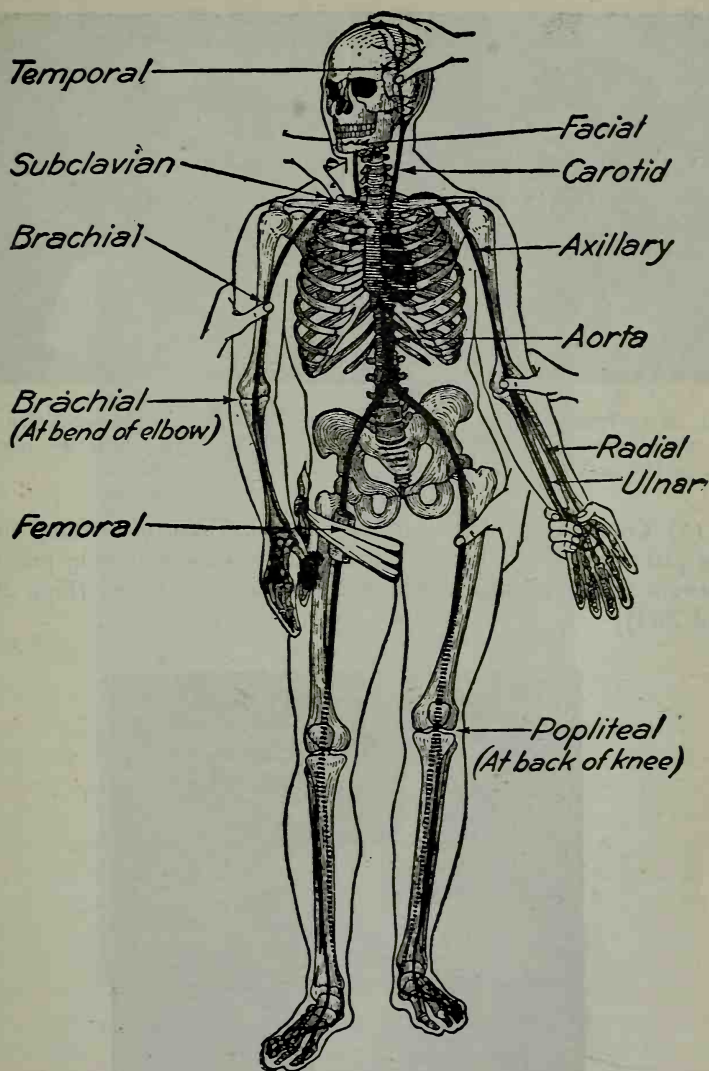
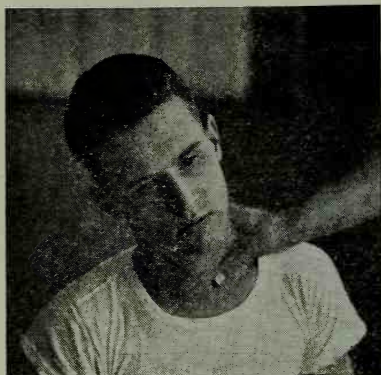

FIG. 28-1—Skeleton with black and dotted lines showing the course of the arteries and the pressure points.
FIG. 28-2—Pressure on carotid artery to control bleeding from head and upper part of neck.
**Treatment.**—Check the hemorrhage. Some knowledge of the general course of the main arteries is necessary. This may be obtained from a study of Fig. 28-1. Also feel for the pulsation of these arteries in your own body to become familiar with their location and the amount of pressure necessary to arrest the flow of blood.
(1) Bleeding from any part of the scalp may be stopped by a tight bandage encircling the head, across the forehead, above the ears.
(2) All other arterial bleeding from the head and the upper part of the neck should be checked by pressure on the carotid artery which supplies that region. Press backward deeply into the neck with the thumb or fingers to the inner side of the plainly visible muscle which extends from the upper part of the breastbone to behind the ear (Fig. 28-2).
(3) Wounds of the great vessels of the neck are so extremely dangerous that direct pressure on the bleeding point should be made at once.
(4) Bleeding about the shoulder may be checked by compressing the subclavian artery behind the middle portion of the collar bone (Figs. 28-1 and 28-3).
(5) Compression of the brachial artery will control bleeding from any part of the arm or hand. This artery may be compressed by pressure outward against the bone at the inner border of the biceps (Figs. 28-1 and 28-4).
artery will control it. This pressure should be made at the middle of the groin, four fingers' breadth below the fold (Figs. 28-1 and 28-5).